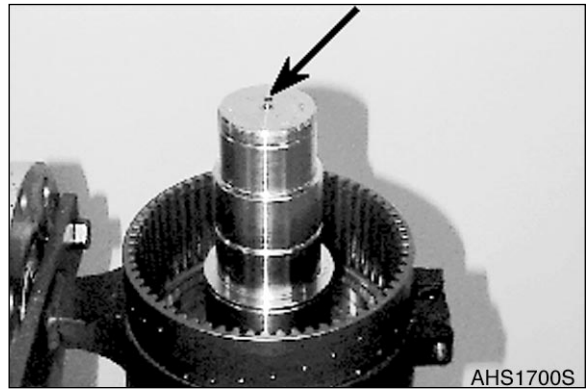

Figure 210
3. Insert both roll pins (6x24 and 3.5x24) flush-mounted into the spur gear-side bore (Figure 210) of the plate carrier.